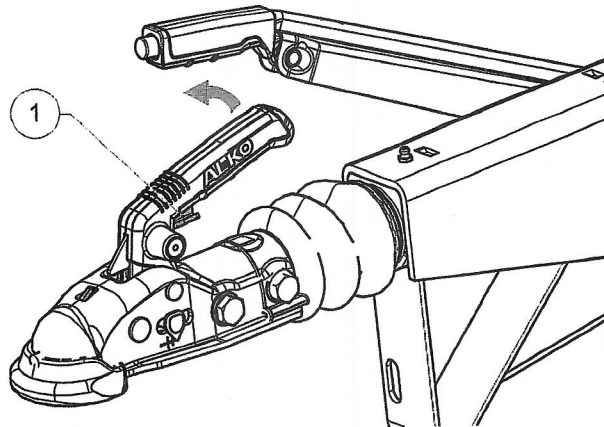

Figure 21 - Tow hitch handle
5. Hold the handle on tow head, squeeze the catch (1, Figure 21) with your forefinger and lift the handle.